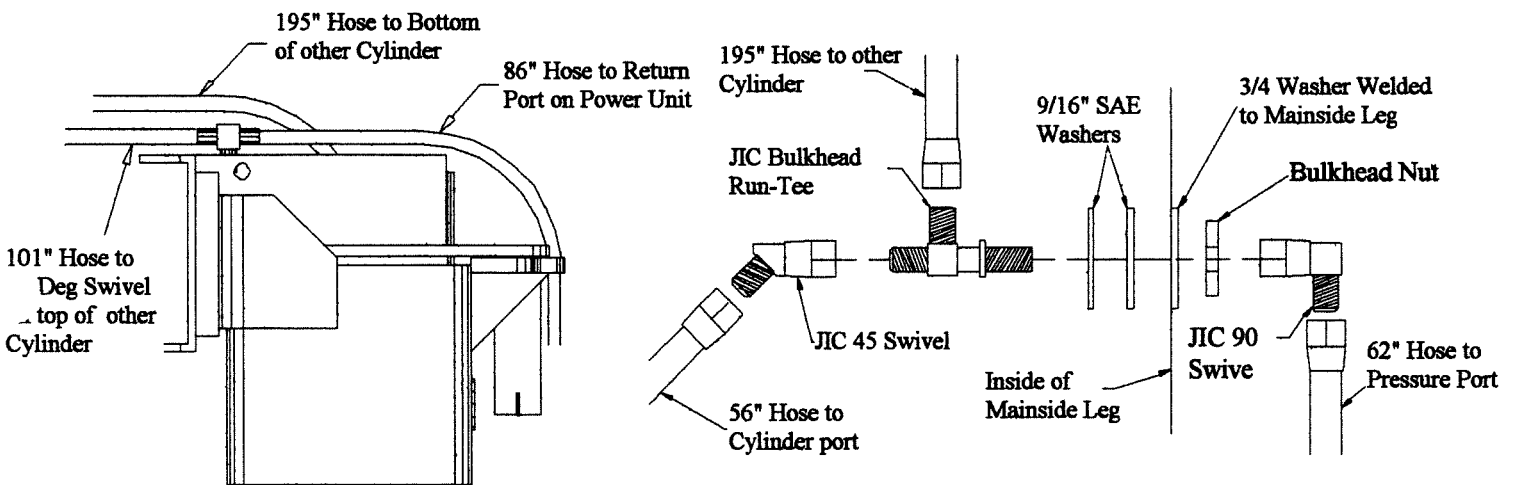

FIGURE 12
25. On the back of the mainside leg there are two holes near the top. On the bottom hole, attach the hydraulic fittings as shown in Figure 12. Two 9/16" SAE washers are used as spacers in the bulkhead fitting installation.
26. Figure 12 shows the hose installation. The 101" hose runs between the fittings on the cylinder tops and the hose sits on the overhead beam. Make sure to run the hoses through hose guides on top of the overhead beam. The 86" hose runs from the top of the mainside cylinder, through the slot on the back of the cylinder mount weldment through the hose guides on the leg back, to the return port (the return port is on the left and the pressure port is on the right) on the power unit. Install the 62" hose between the 90-deg swivel fitting and the pressure port on the power unit. Run the hose through the hose guides on the leg back. Install the 56" hose between the 45-deg swivel and the mainside cylinder port. Do not tighten the cylinder end of the hose fitting. Install the 195" hose between the top of the bulkhead fitting and the offside cylinder port. Do not tighten the cylinder end of the hose fitting. Thread the hose through the cylinder mount weldments and the hose